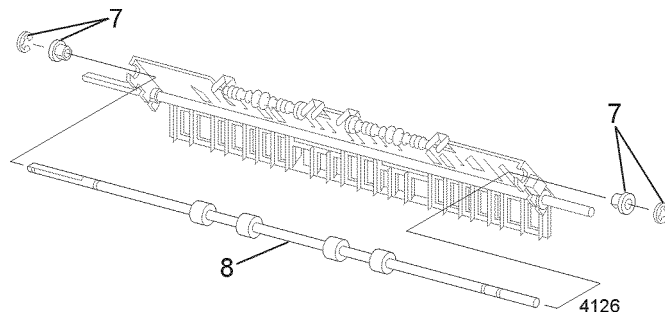

Figure 1 Offset Roller
7. Remove the E-rings and bearings from both ends of the Offset Roller (Figure 1).
8. Remove the roller (Figure 1).